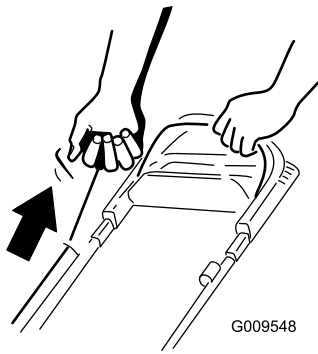

Figure 13
2. Pull the recoil-start handle (Figure 13) lightly until you feel resistance, then pull it sharply, and allow it to return to the rope guide on the handle slowly.